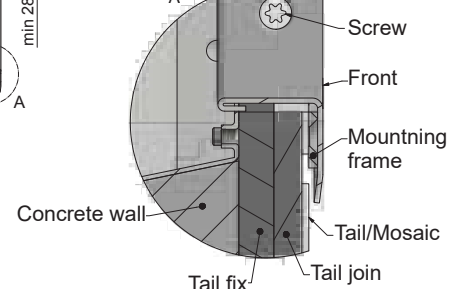

Fig 12.
10. Mount the front of the frame and secure it with the supplied screws (4x M5x12) in the second and eighth holes, see Fig. 12.